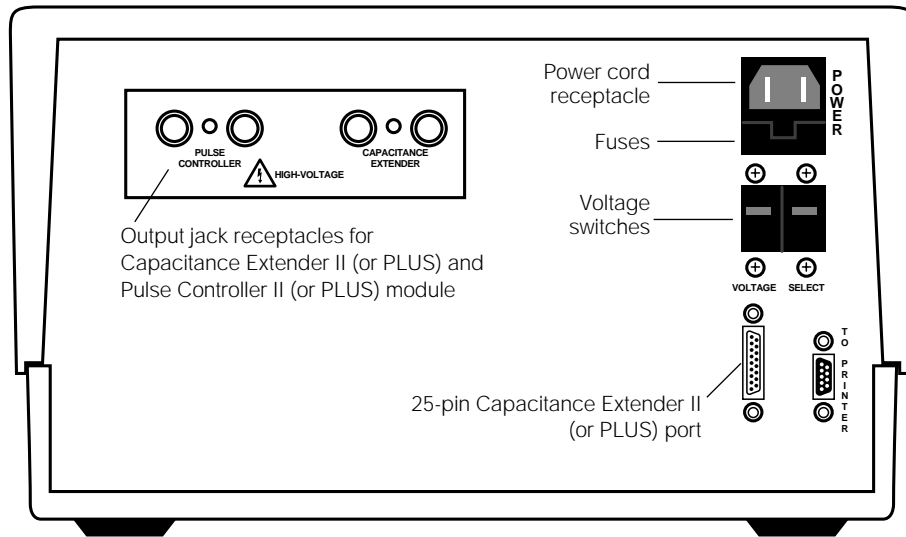

Fig. 2.1. Rear panel of Gene Pulser II unit. Voltage switches, cable ports, power cord, and output jack receptacles.
1. Verify Gene Pulser II unit voltage compatibility with local electrical output by checking that the red voltage switches in the back of the unit are in the proper position (Figure 2.1).
2. Attach the power cord to the three pronged receptacle on the back of the Gene Pulser II unit (Figure 2.1) and plug the unit into an appropriate electrical outlet or power strip.